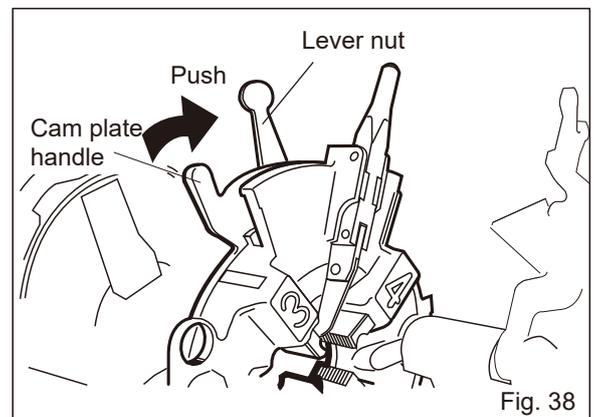

Fig. 38
- Fit the appropriate Die-head as shown in Fig. 38
- Push the Cam plate handle forward to set the Auto-open lever then set the thread size by fitting the Lever nut to the appropriate position. (Fig. 38)